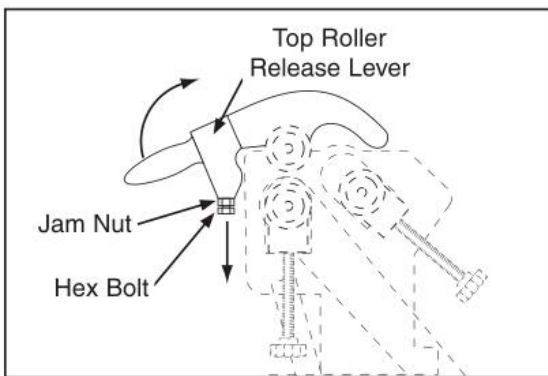

Figure 25 Hex bolt and jam nut
1. Loosed the jam nut and hex bolt until the top roller release lever can be lifted (figure25).